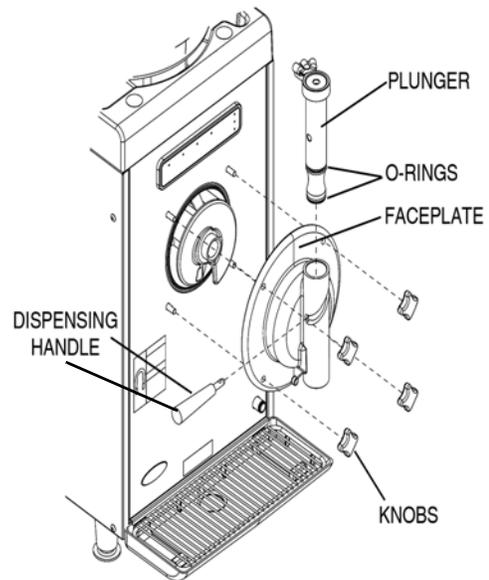

Figure 17.
4	Remove the Dispense Handle from the Plunger, by pulling it straight out of the Plunger. See Figure 17.
5	Remove the Barrel Faceplate from the front panel by unscrewing the four (4) Thumb Knobs. See Figure 17.
6	Remove the Plunger from the Faceplate by pulling it out the top of the Faceplate. See Figure 17.